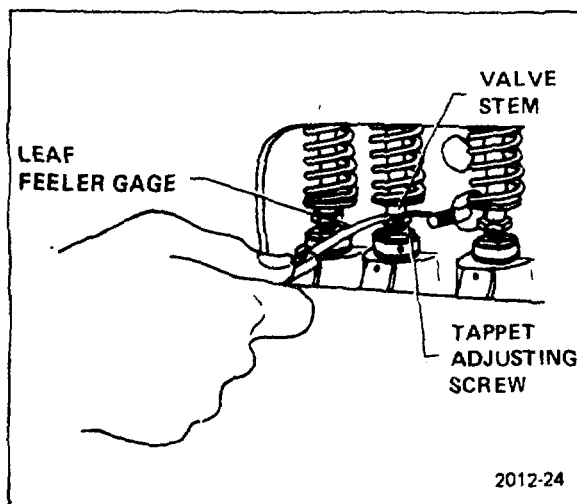

Figure 5-3. Measuring Tappet Clearance
2. Start engine and insert feeler gage between valve tappet and valve stem. (See figure 5-3.) Adjust tappet until the clearance on the intake and exhaust is as specified for the engine in Section 2.